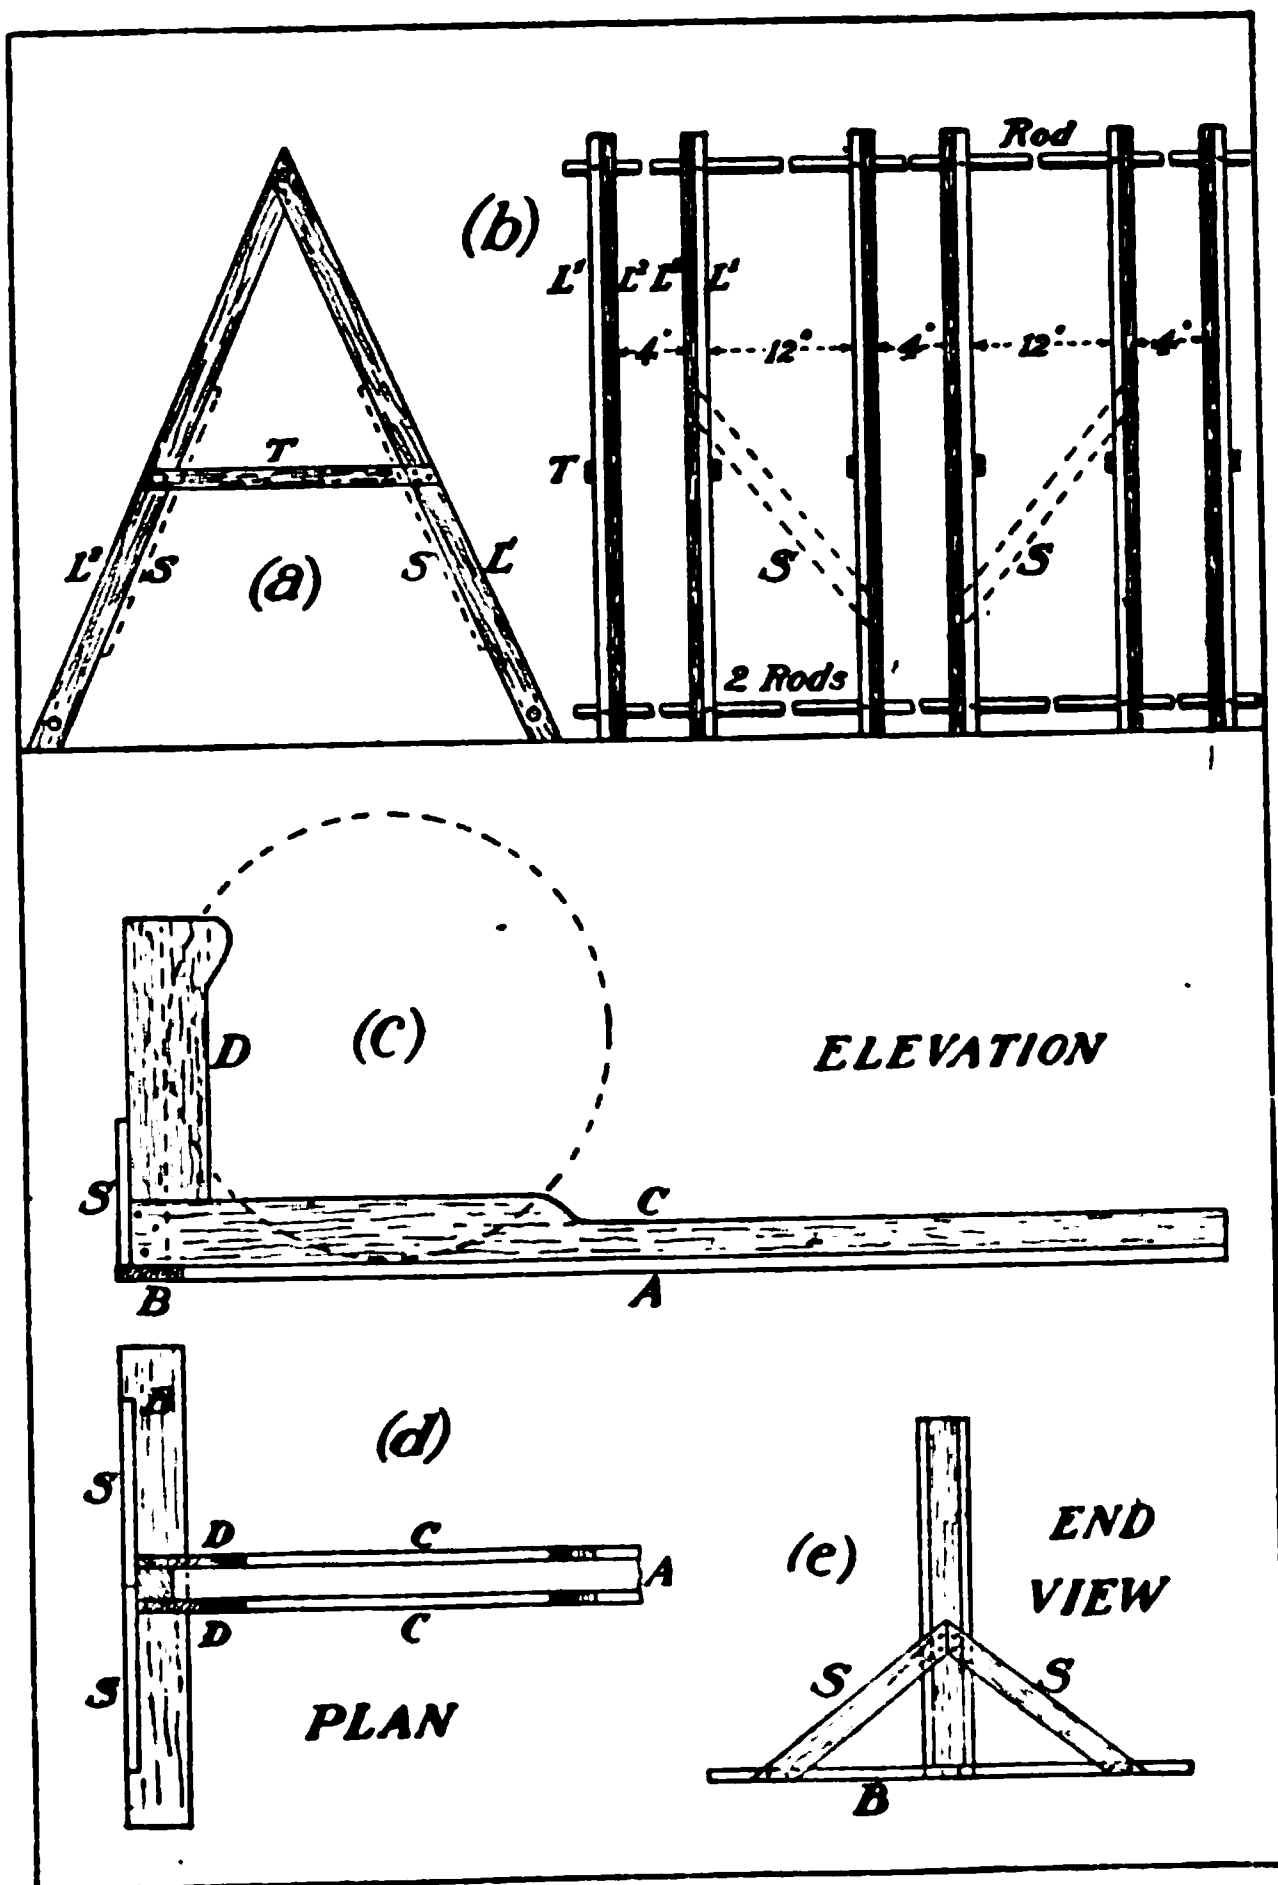

Fig. 147.—Cycle stands.
**F**IG. 147, *a* and *b*, is a stand for three cycles. It consists of six trestles similar to that shown in the end view (Fig. 147, *e*), strung together in pairs on three broom or other suitable sticks. A tie, *T*, about halfway up, prevents them spreading.
The trestles are 3 ft. high vertically, measured from the centre of the top stick ; and 2 ft. 8 in. wide outside the legs. The last are 3 ft. 6 in. long. They may overlap at the apex as shown in Fig. 147, *a* (this gives a longer bearing for the stick), or be “halved” together. In the first case the ties will need blocking out about an inch at one end
to run due fore-and-aft. It should be noted in Fig. 147, *b*, that the unshaded legs,  $L^1$ , which are on the side from which the machine is entered, are outside the shaded legs,  $L^2$ , so as to give plenty of room (about 6 in.) for the spindle of the front wheel.
Fig. 147, *c*, *d*, *e*, are respectively side elevation, part plan, and end elevation of a stand for a single cycle. The base, A, is a 4-in. by 1-in. board about 5 ft. 6 in. long. At one end a 2 ft. 6 in. piece of similar board is "halved" across it, and at the point of crossing is stub-tenoned in a 2 ft. piece of 2-in. by 2-in. wood. To this are nailed two 4-in. by 1-in. side pieces, C, reduced to 2 in. depth aft of the front wheel, to form a wheel trough 2 in. wide; and two verticals, D D, shaped as shown out of a 6-in. board. The upright is stayed laterally by two struts, S S, nailed to the back and let flush into the rear edge of B. If D D be connected with C C inside by small plates, the fore-and-aft rigidity of the upright will be considerably increased.